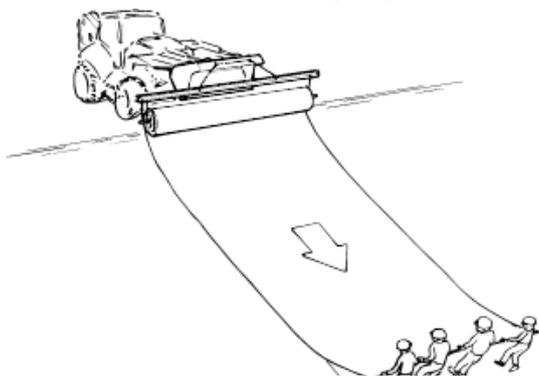

Fig. 7: Unrolling Claymat GCL
3. If sufficient access is available, **Claymat GCL** may be deployed by suspending the roll at the top of the slope, with a group of labourers pulling the material off the roll, and down the slope (Figure 7).